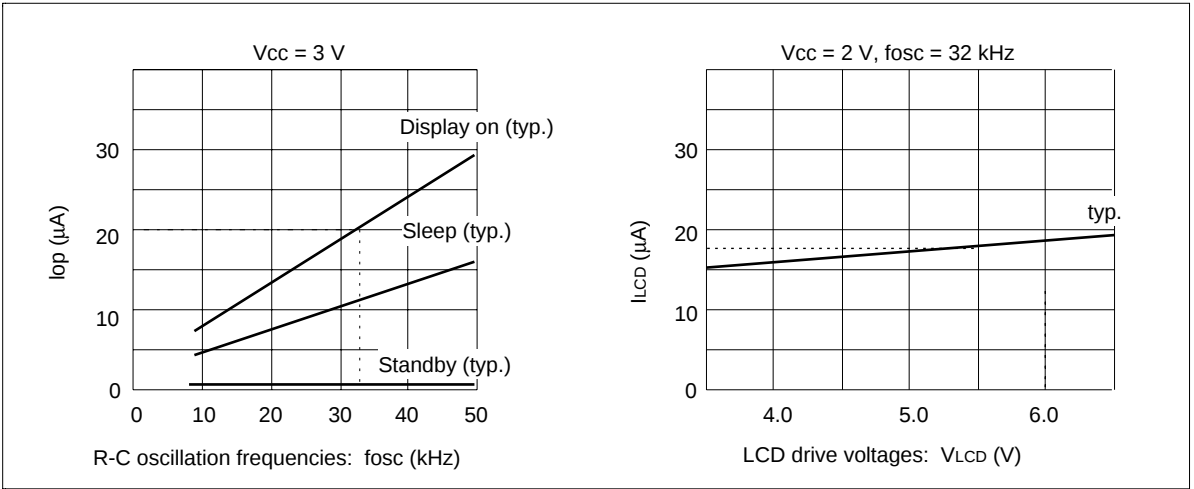

Figure 37 Relationship between the Operation Frequency and Current Consumption
- 6. The following shows the relationship between the operation frequency and current consumption (figure 37).